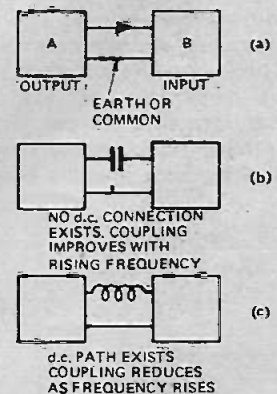

Fig. 10. Coupling methods.
Where the signal from black box (A) Fig. 10 is to be coupled into black box (B), we must first examine the signal to see what frequency range it covers. If it extends down to zero, that is dc, then direct coupling must be used.